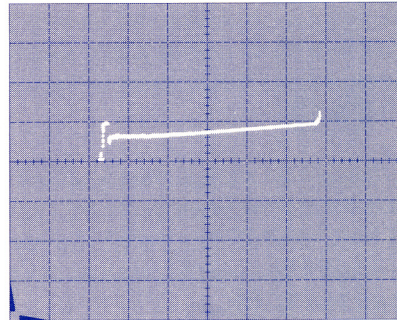

Figure 3-1. + and - input bias current on one display. Typical input offset current is very low and little to no trace separation is noticeable on the display.
- 2) Read display — Check that difference between vertical displacements is within specified limits [1.0 division, equal to $0.2 \mu\text{A}$] over full stated horizontal domain [+2 divisions from center] as specified. See Figure 3-1.